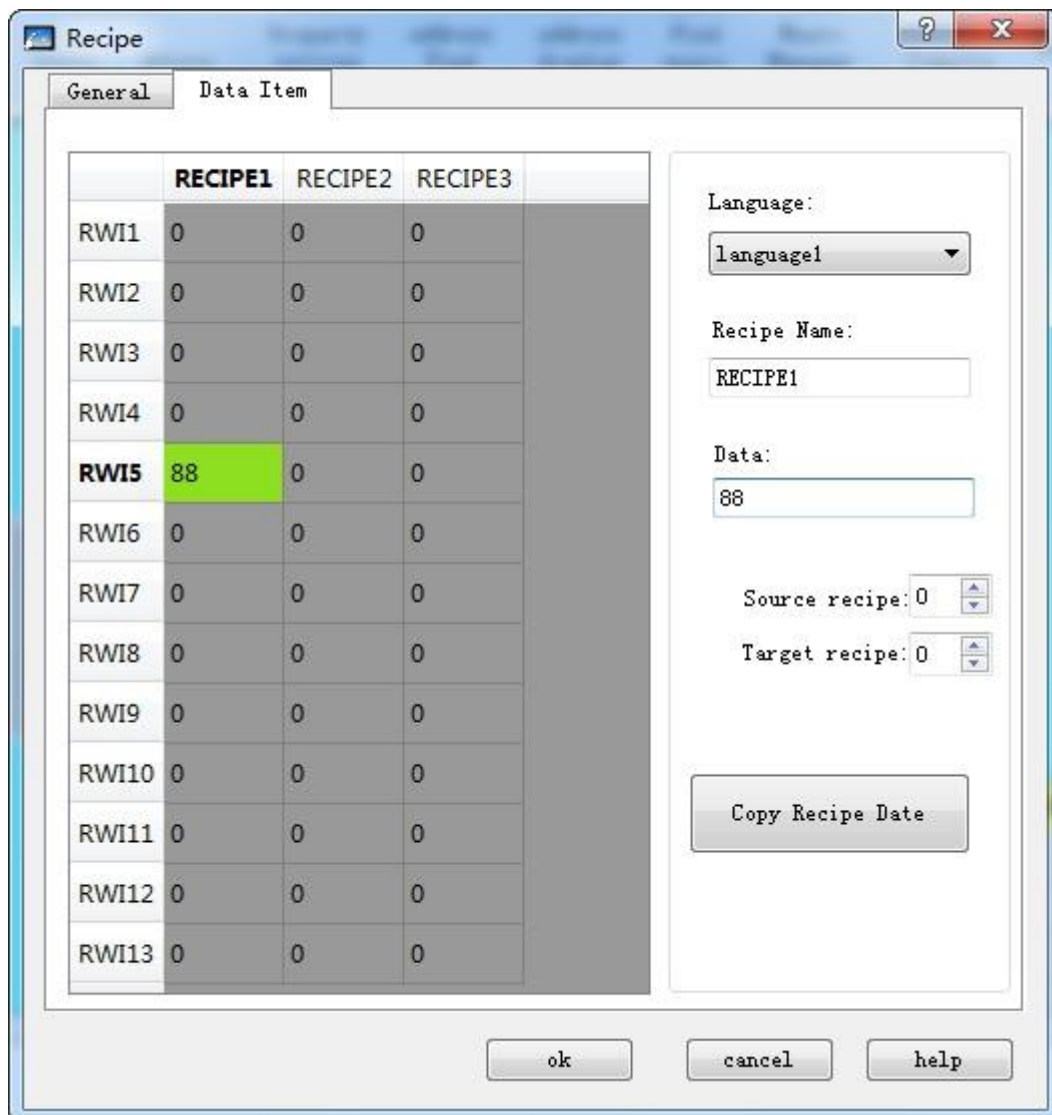

Figure 7-34 Function of recipe data copy
1. Create a recipe configuration as described above. The effect is shown in Figure 7-34: